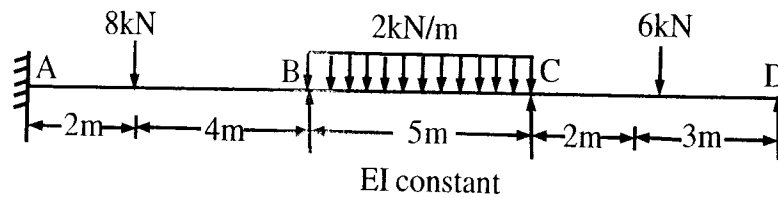

Fig. 6
- Q.3 Using slope deflection method solve the structure shown in Fig. 6. Plot the bending moment diagram.